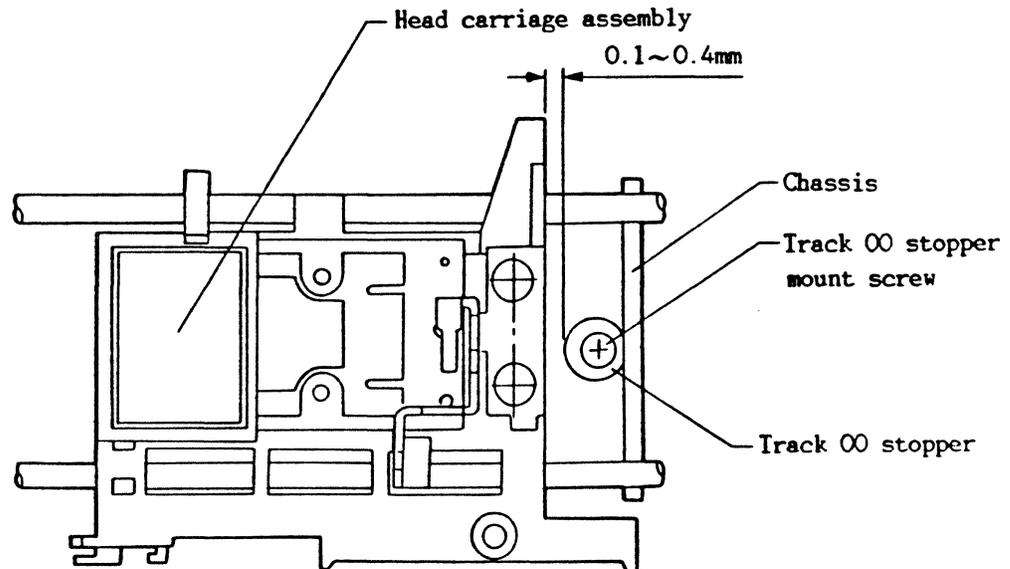

Fig. 419 Track 00 Stopper Adjustment
- (2) Start the spindle motor and insert the work disk.
- (3) Check whether or not the voltage at TP9 is 0.5V or less after the head is shifted to track 00.
- (4) Shift the head to track 04.
- (5) Check whether or not the voltage at TP9 is 3V or more after the head is shifted to track 04.
- (6) If the voltages in items (3) and (5) above are not within the specified range, adjust the track 00 sensor position using the following procedure.
- (a) Loosen the track 00 stopper mounting screw (refer to Fig.419) and move the stopper in the step-out direction (away from the back part of the head carriage).
- (1) Shift the head to track 00.
- (2) Check if there is a very small gap (approx. 0.1~0.4mm) between the end of the track 00 stopper and the head carriage. (Refer to Fig.419)
- (3) Make sure there is no contact between the head carriage and track 00 stopper when the head is moved back and forth repeatedly between track 00 and a place a few tracks inside.
- (4) When the conditions of items (2) and (3) are not satisfied, adjust the track 00 stopper position using the following procedure.
- (c) Repeat the procedure given in items (1)~(3).